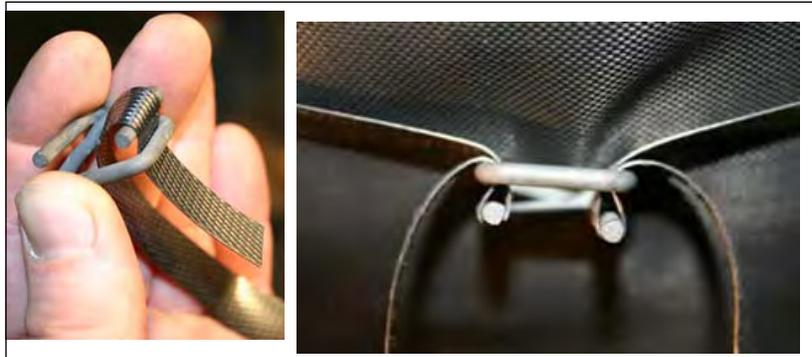

Figure 2-7
14. Fit one end of black plastic strap to the fastener (**Figure 2-7**). Wrap strap around the boiler and connect other end to fastener. Repeat with second strap. Tighten straps so blanket is snug, but do not overtighten. Do not compress insulation. Position the straps at $\frac{1}{4}$ and $\frac{3}{4}$ height.